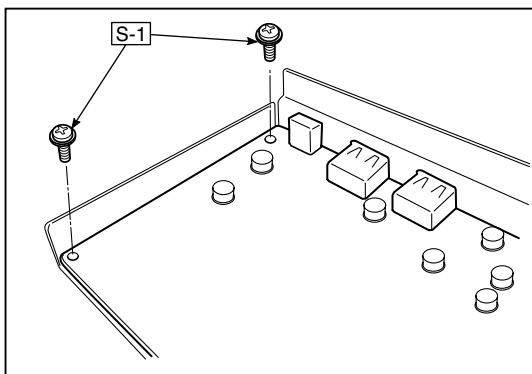

Fig.4
- 4.Remove the "S-1" screw shown in the figure 4 and then remove the Main Board Assy from the Main Board Shield.